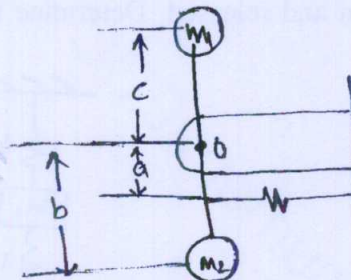

Fig.Q.2(b)
- b. Determine the natural frequency of two masses  $m_1$  and  $m_2$  connected to the light stiff rod as shown in Fig.Q.2(b). (10 Marks)